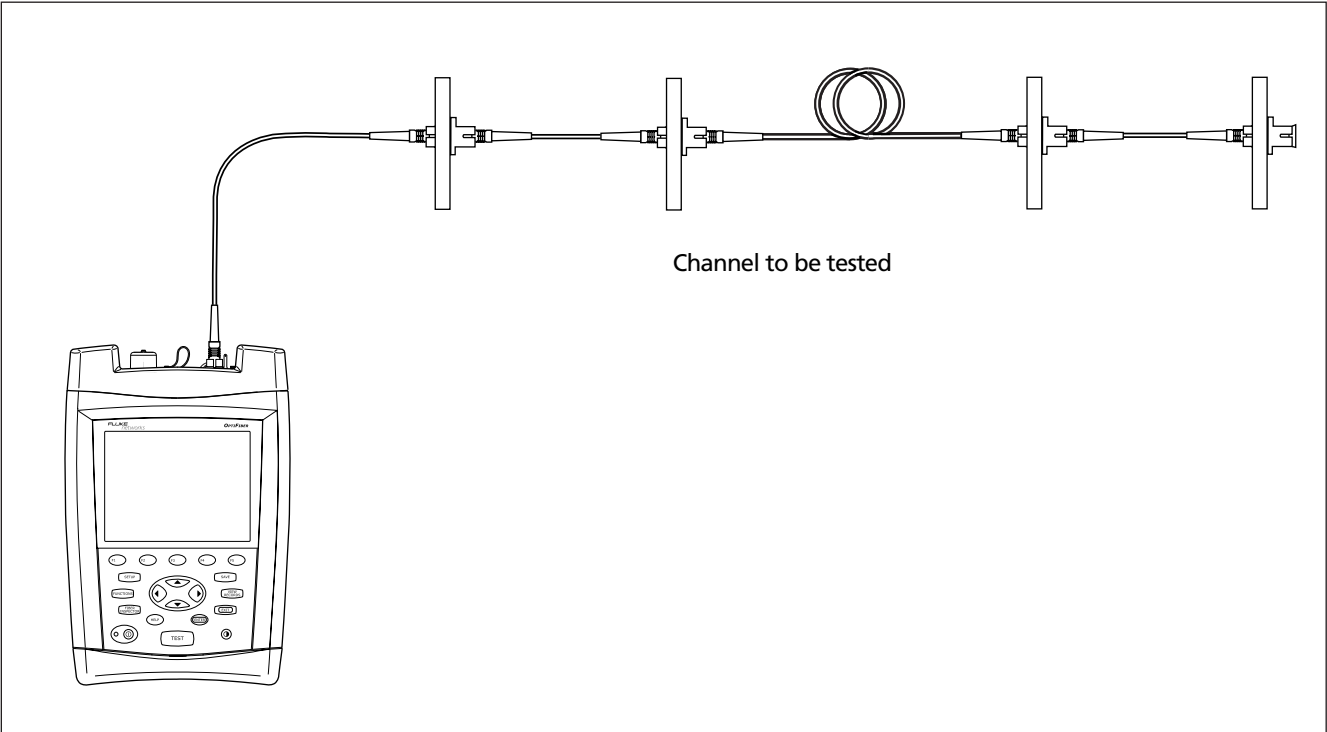

Figure 18. FaultMap Test Connections
- 4 Connect the launch fiber to the OTDR port and the channel to be tested. Refer to Figure 18.